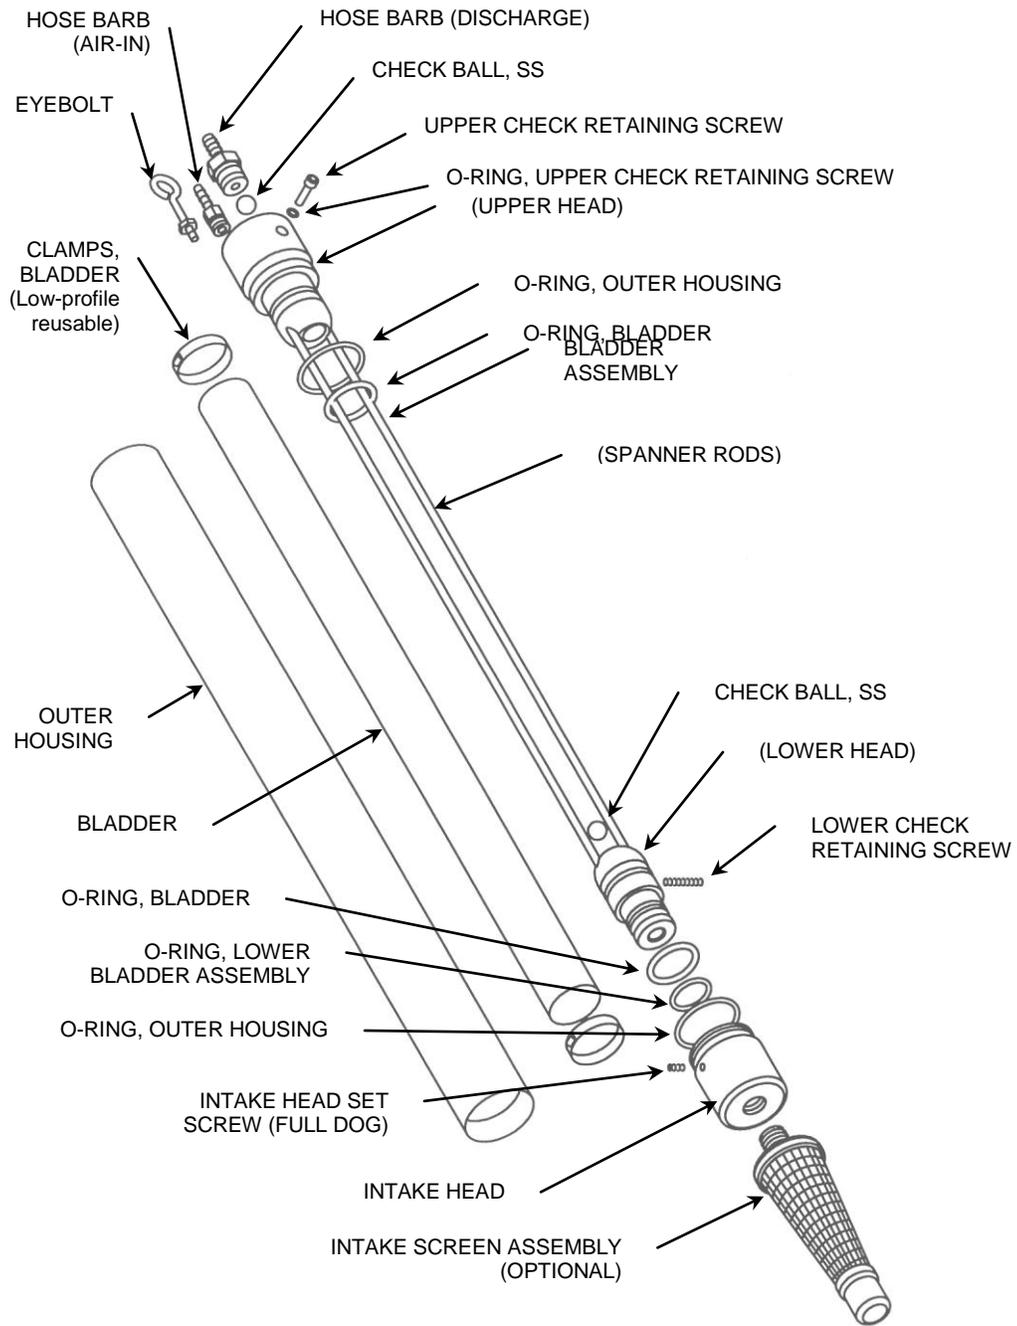

Figure 1
The Marschalk Aquarius II Bladder Assembly is a welded assembly consisting of four 316 Stainless Steel components, the Upper and Lower Head and two Spanner Rods. (see figure 1, page 5).
As with any pump, scheduled or periodic maintenance should be performed, according to your sampling program and specific site conditions. Generally, the more turbid or sandy your water, the more often you should maintain and clean your pumps. In addition, pumps that are in wells with high concentrations of Total Dissolved Solids (ex. iron, calcium, and manganese) may be subjected to mineral deposits and require more frequent cleaning (see System Components, figure 1, page 5).
- Using a 3/32" Allen wrench, remove the Intake Head set screw. Gently pull and twist the Intake Head to remove it from the Outer Housing (see figure 1, page 5).
- Remove the Outer Housing (see figure 1).
- Using a pair of Oetiker clamping pliers, remove the upper and lower Bladder clamps. At this time, inspect the O-rings for rigidity, splits or cracks and replace them as necessary (see figure 1).
**This set screw connection between the Bladder Assembly's "Lower Head" and the Intake Head is a critical structural element of the Aquarius II Bladder Pump (see figure 1, page 5). Do not over-tighten the screw when assembling the pump. Tighten the set screw only until it bottoms out in the groove of the "Lower Head". Improper assembly can seriously decrease the burst resistance of the pump. Do not pressurize the pump for any reason unless it is in a well. If the Intake Head is improperly installed and the pump is pressurized outside of the well the pump may come apart suddenly causing injury.**